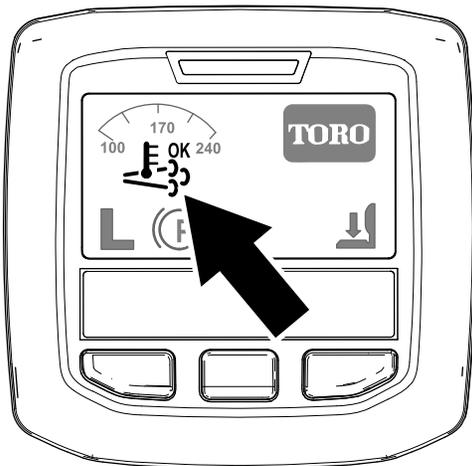

Figure 26
- The assist/reset-regeneration icon displays in the InfoCenter (Figure 26).